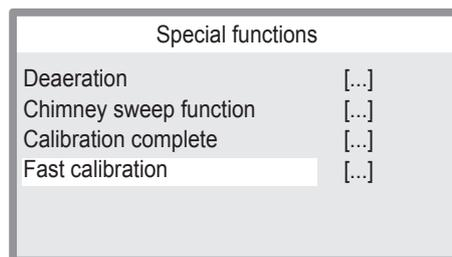

Figure 11.15
- 8 Press button "A" or "B" (Figure 11.11) to select the desired menu from those available (Figure 11.15).